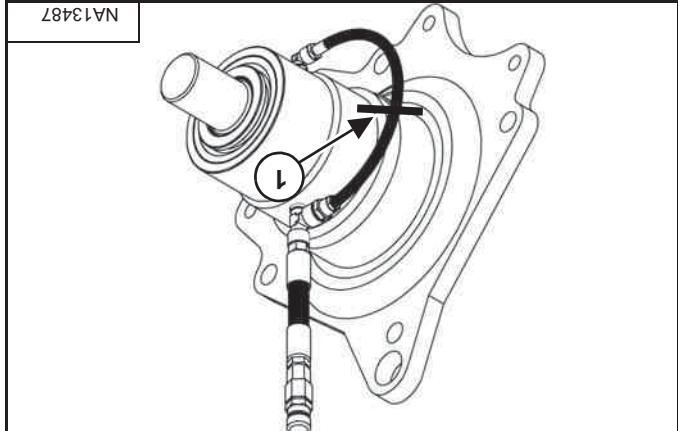

Figure 10
Check drive shaft oil level (item 1) [Figure 10]. Add oil if necessary to oil level mark.